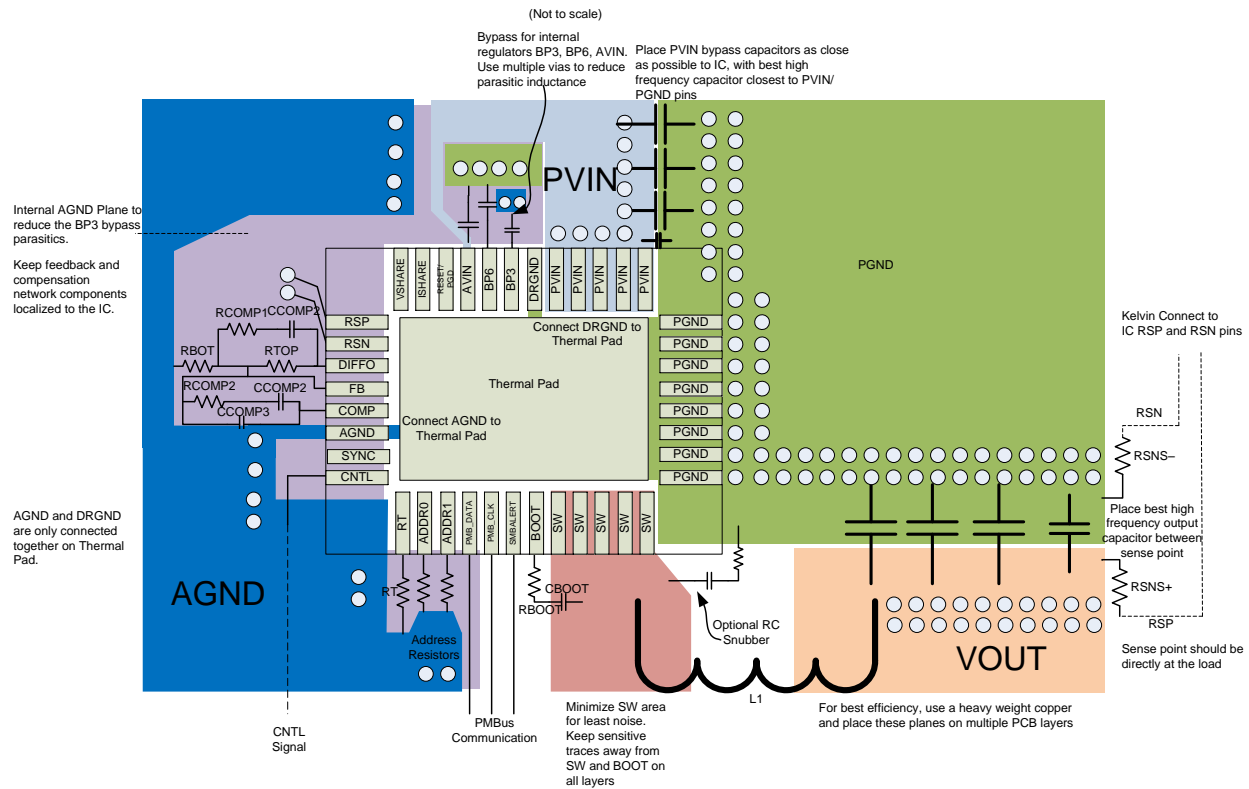

图 52. PCB Layout Recommendation
Layout is critical for good power-supply design. 图 52 shows the recommended PCB-layout configuration. A list of PCB layout considerations using these devices is listed as follows:
- Keep signal components local to the device, and place them as close as possible to the pins to which they are connected. These components include the feedback resistors and the RT resistor. These components should also be kept away from fast switching voltage and current paths. Those components can be terminated to AGND with a minimum return loop or bypassed to the copper area of a separate low-impedance analog ground (AGND) that is isolated from fast switching voltages and current paths and has single connection to PGND on the thermal pad through the AGND pin. For placement recommendations, see 图 52.
- The PVIN and AVIN pins must be the same potential for accurate short circuit protection, but high-frequency switching noise on the AVIN pin can degrade performance. The AVIN pin should be connected to PVIN through a trace from the input copper area. Optionally form a small low-pass R-C between the PVIN and AVIN pins, with the AVIN bypass capacitor (1  $\mu$ F) and a 0-2  $\Omega$  resistor between the PVIN and AVIN pins. See 图 52 for placement recommendations.